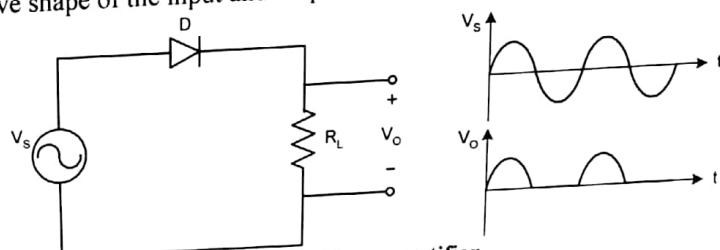

Figure 1: Half wave rectifier
1. Connect the circuit in breadboard as shown in Fig: 1 without capacitor.